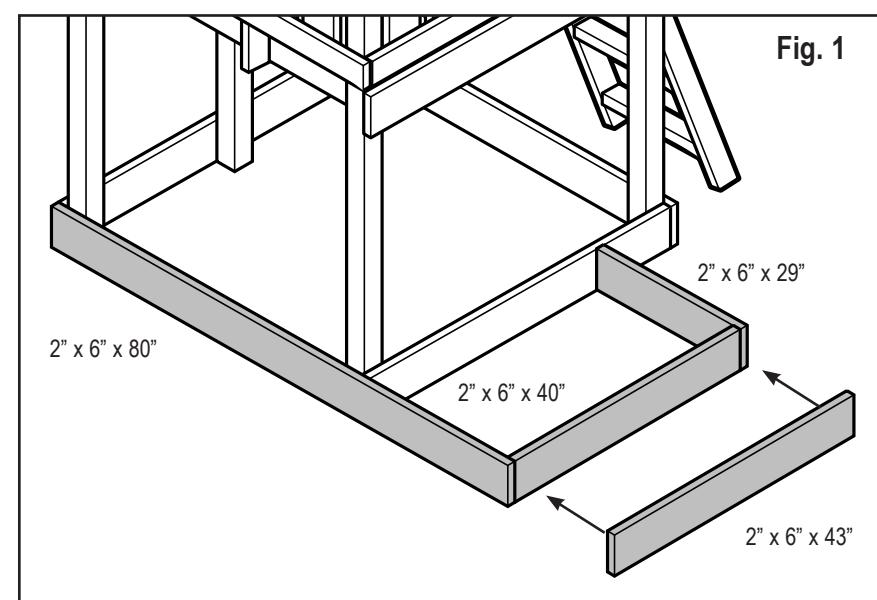

Fig. 1
3. Attach the 2" x 6" x 80" board to the base as indicated in Fig. 1 using four 2" screws at each joint. Drill through the existing holes in the post and through the new base board. Insert previously removed carriage bolts and secure using hardware removed earlier.
4. Attach remaining lumber to the unit as shown in Fig. 1 using three 2" screws per joint.